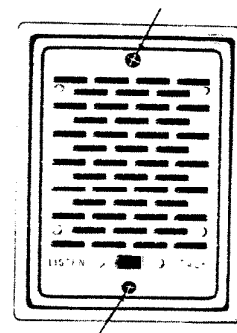

Fig. 9. Model 2006 outside door remote speaker station.
4. Model 2006 3½" speaker (Fig. 9)
2. Align holes in speaker assembly with holes in frame. Fasten in place with screws provided (Fig. 9).